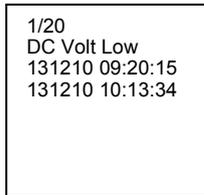

Fig. 2-8 History alarm information screen
- 2) If there is a current alarm in the system, the screen will display the information shown in Fig. 2-8.